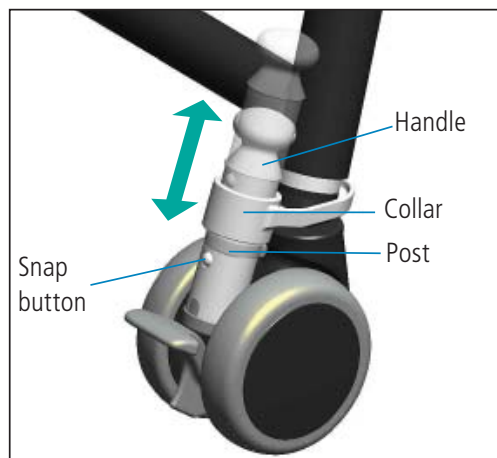

Figure 19c
**Note:** When connecting legs with casters, be sure that caster with swivel lock function is inserted into right rear leg of base frame (see Figure 19c).
To apply swivel lock, position caster directly beneath swivel lock post and push handle down with foot. Swivel lock post should drop into caster groove and stop just above brake pedal (see Figure 19c).